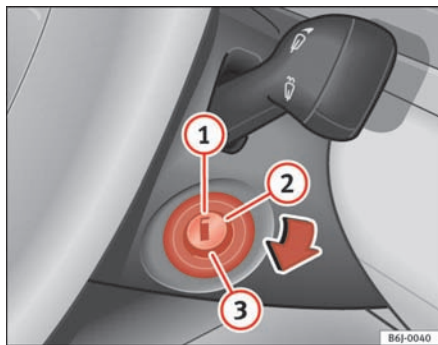

Fig. 92 Ignition key positions
In this position ⇒ fig. 92 the ignition and the engine are OFF and the steering may be locked.
- Turn the ignition key to position $\Rightarrow$ page 132, fig. 92 ①. The indication lamp  will light for engine pre-heating.
- When the warning lamp turns off, turn the key to position ② to start the engine. Do not press the accelerator.
- Turn the ignition key to position $\Rightarrow$ page 132, fig. 92 ①.